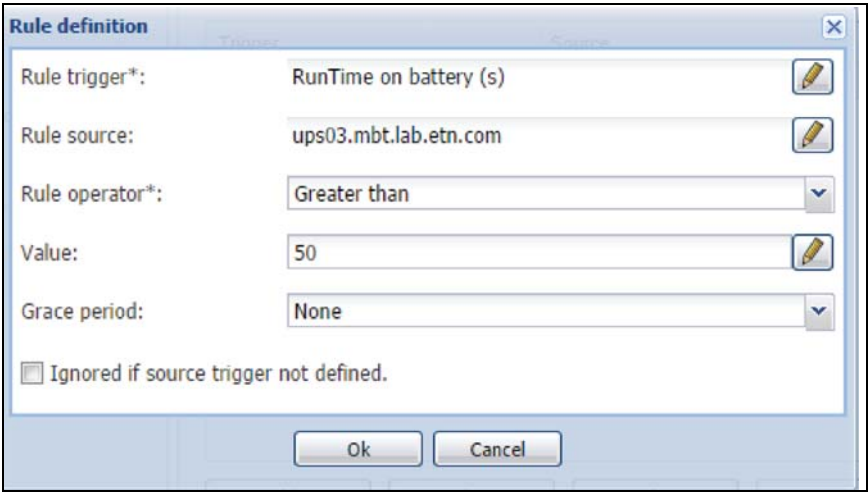

Figure 245. Rule Definition
4. On the Rule definition dialog, select the source and the value (see Figure 245).